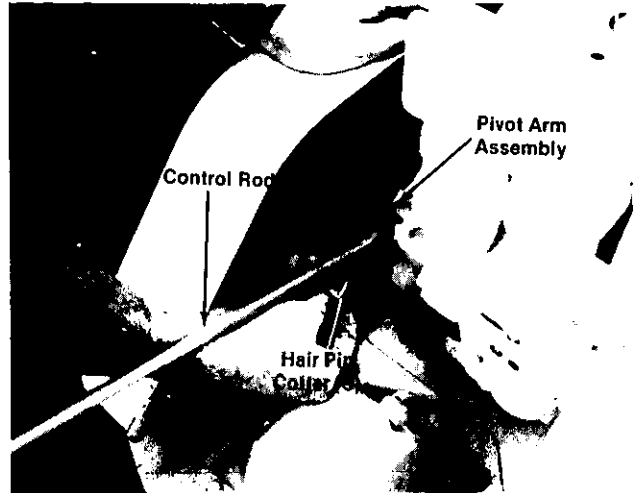

FIGURE 11.
B. Hook control rod in hole provided on pivot arm assembly as shown in figure 11. Secure control rod to pivot arm assembly with hair pin cotter (C). See figure 11.